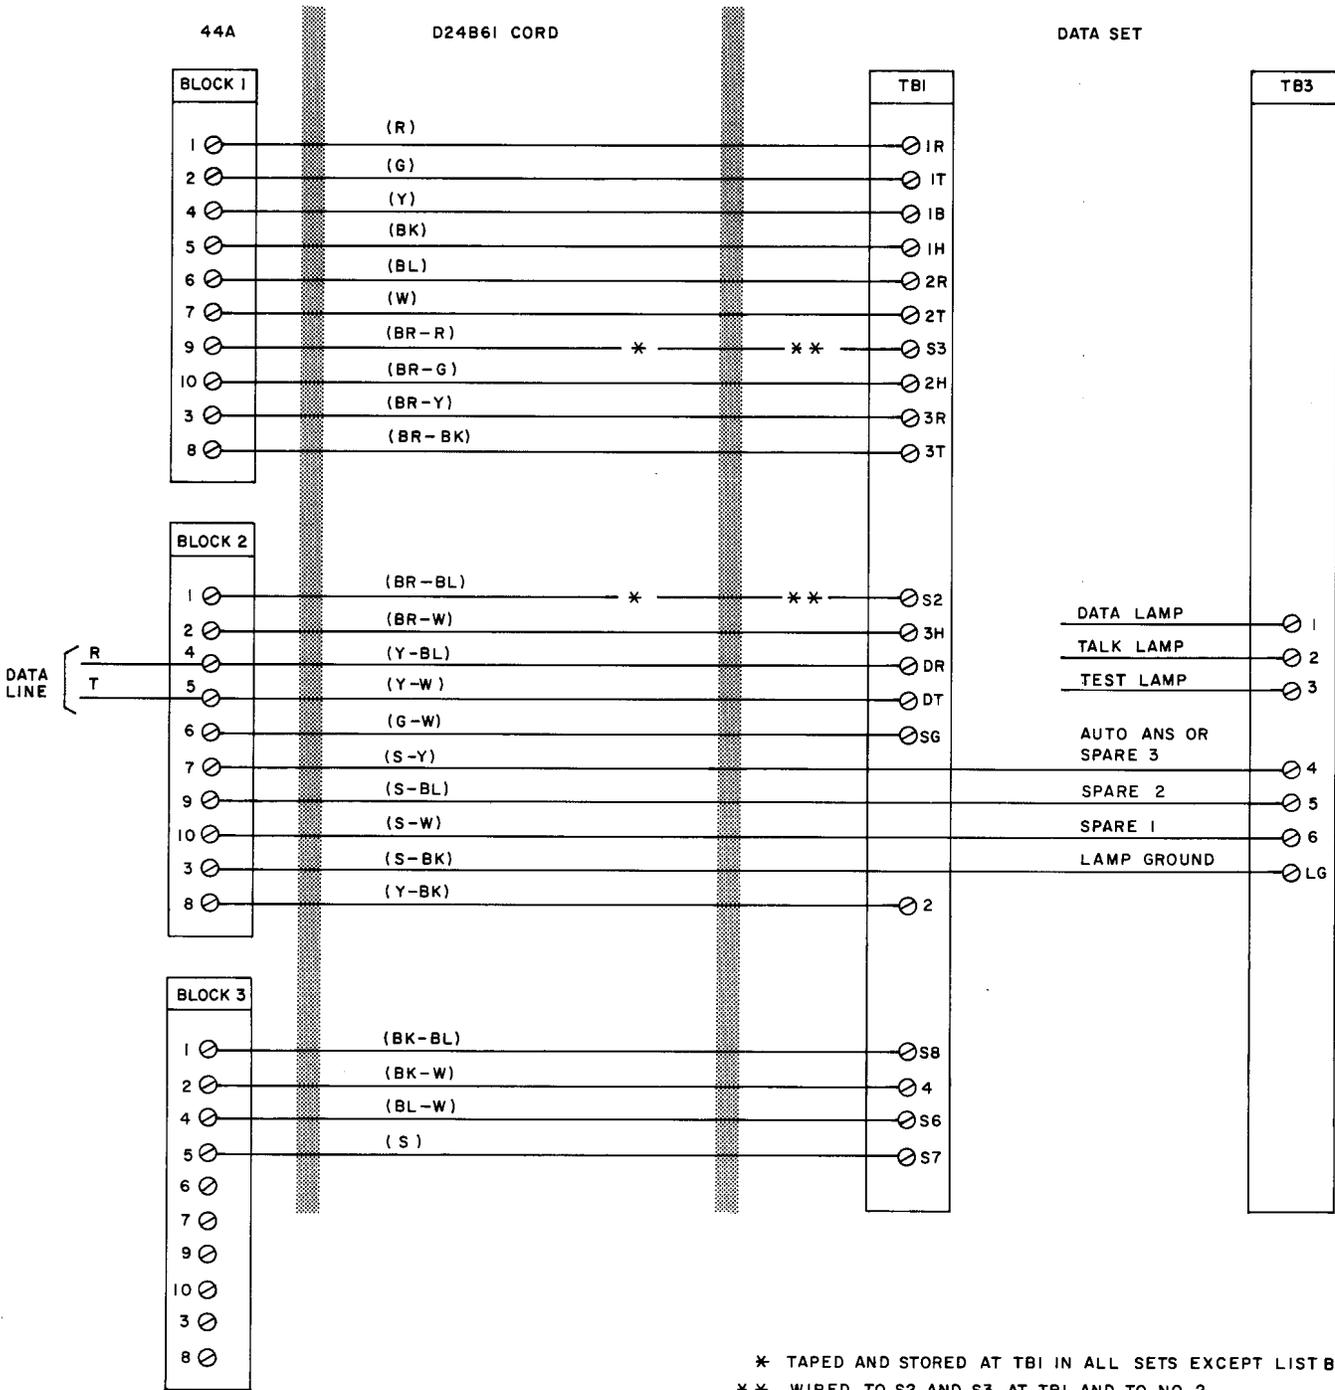

Fig. 4—Data Set 202A, Connections
3.08 Figure 4 shows line connections for the data set and associated telephone circuit.